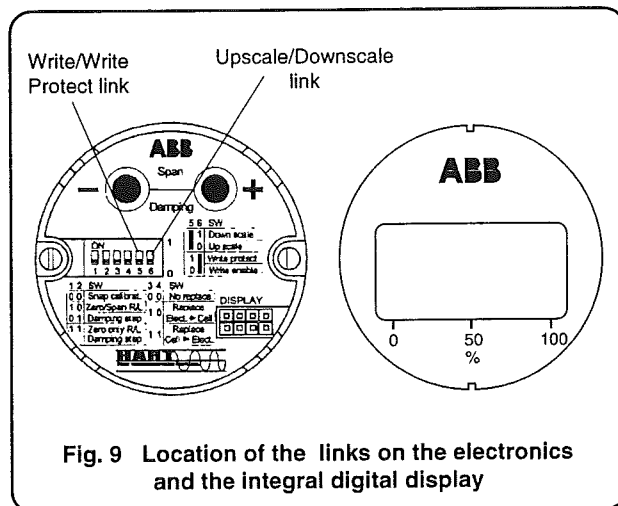

Fig. 9 Location of the links on the electronics and the integral digital display
- the write protect link, located on the electronics module is in position OFF (write allowed). Access to the link is gained by unscrewing the secondary unit housing cover at the opposite end to the terminal cover (See Fig. 9).
- the Upscale/Downscale link is positioned to the required function: ON for Downscale OFF for Upscale (see Fig. 9).
Note - To prevent unauthorized calibration operation refit the write protection link in position ON (Write Protect) (Fig. 9).